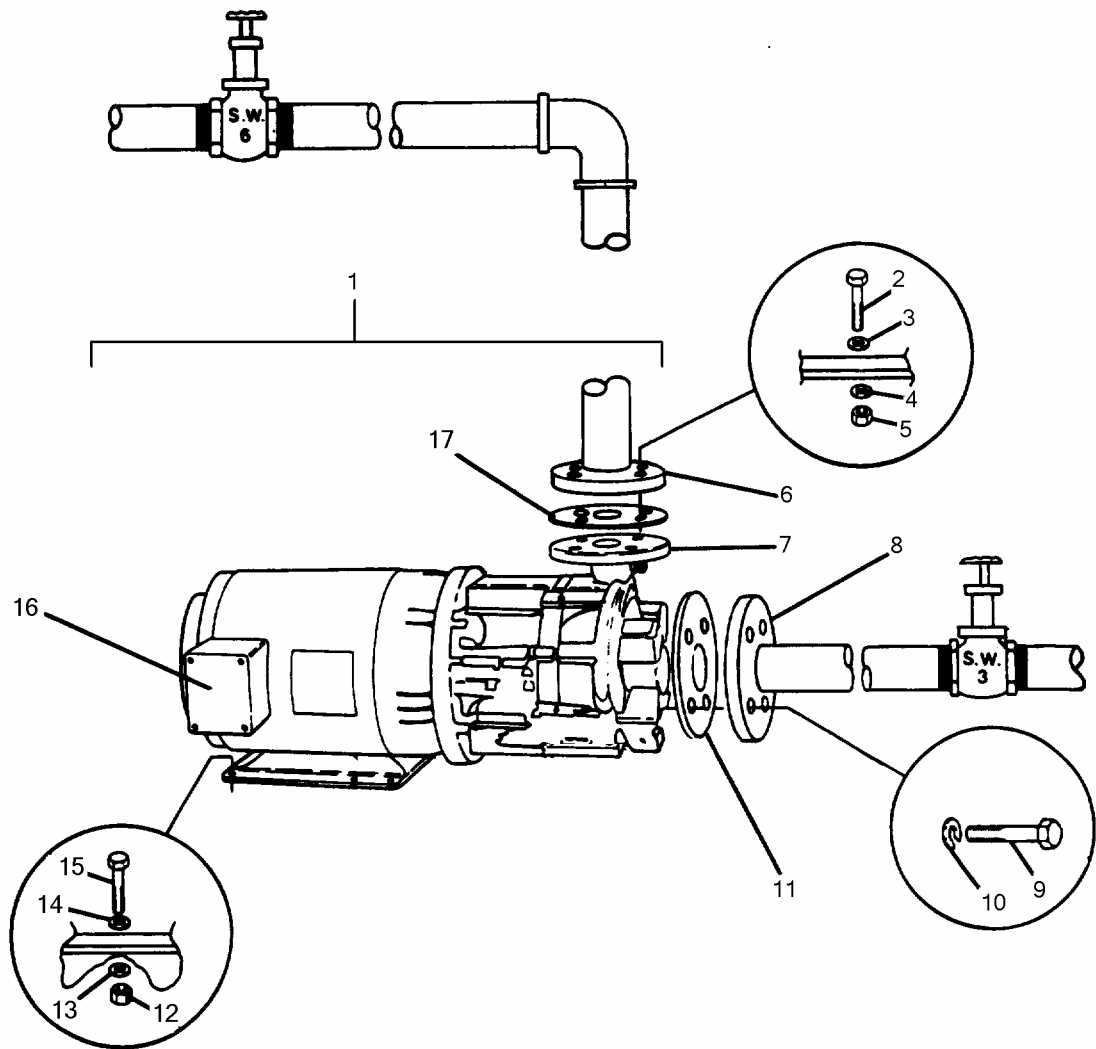

FIGURE 2-83. Centrifugal Pump Unit (Auxiliary Seawater Cooling).
**2-99. Replace/Repair Centrifugal Pump Unit (Auxiliary Seawater Cooling). (FIGURE 2-83)**